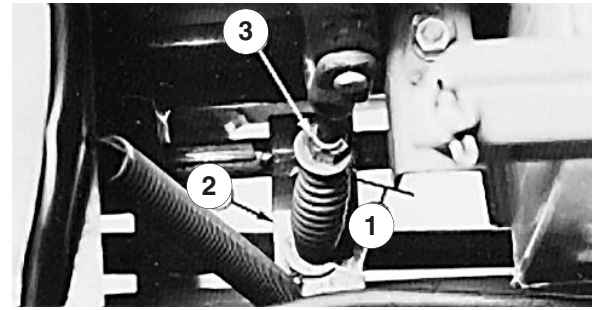

Figure 41
3. Measure the length of the power take-off spring between the flat washers (Fig. 41). There should be a spring length of 3- $\frac{3}{16}$ in. (81 mm).
4. To adjust, hold the head of the adjusting screw with a wrench (under the power take-off actuating arm) and turn the locknut (Fig. 41).